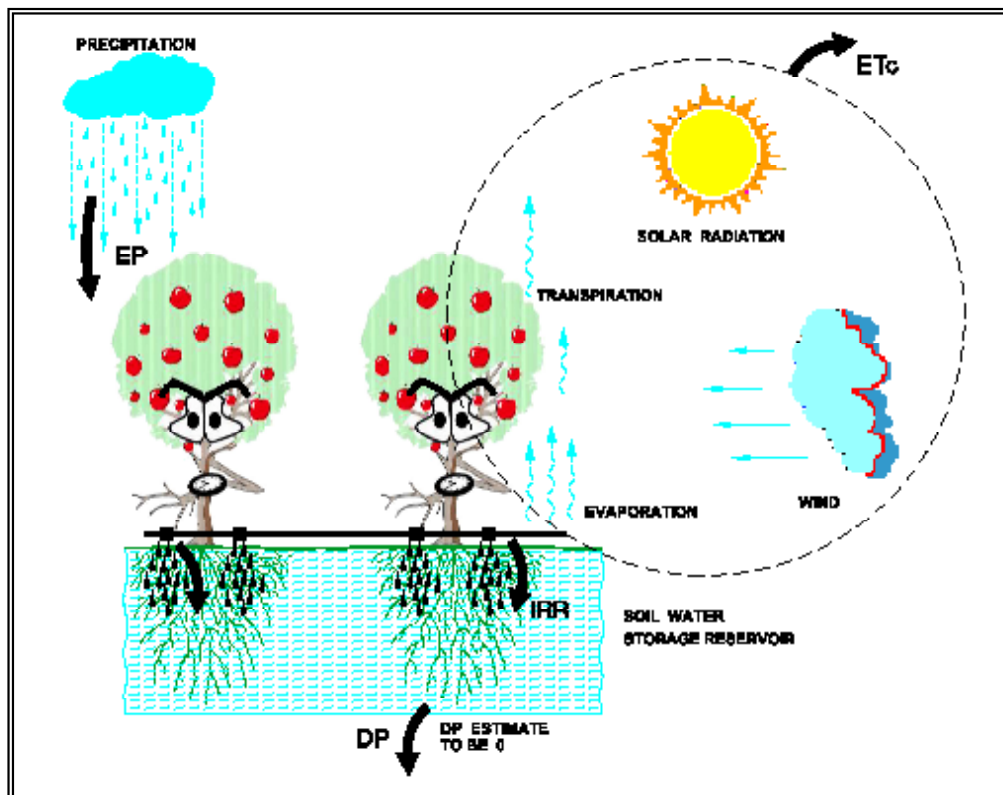

Figure 1 Crop Water Balance
- 2 The **water budget method** can be used for row crops, such as vegetables, strawberries or any crop that is spaced close enough together so that the system is irrigating the entire field. If the plants or rows are spaced far apart so that portions of the field are not irrigated, then the plant water requirement method will be a better approach. Figure 1 shows the schematics for water budget method.
Using a water budget to schedule trickle irrigation systems is similar to balancing a chequebook. The plant's soil water storage reservoir can be considered as a bank. This reservoir can hold a limited amount of water that is useful for the crop. Adding excessive water to the soil reservoir will mean a loss of water due to deep percolation or runoff. The crop evapotranspiration (ET_c), or the crop water use, is the daily withdrawal from the bank. The bank is replenished with irrigation or rainfall. Figure 1 schematically shows the crop water balance parameters. ***This method should only be used with row crops that are spaced close together.***